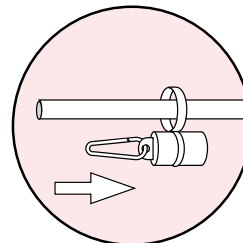
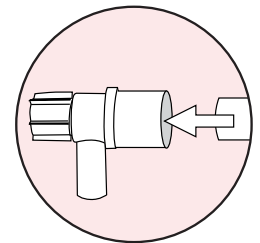
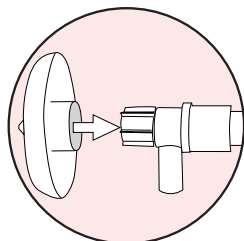

Fig 3a.
Fig 3b.
Fig 3c.
3. Place weight over pole (see fig 3a), mount rotating joint onto top of pole (see fig 3b), push on finial. (see fig 3c)